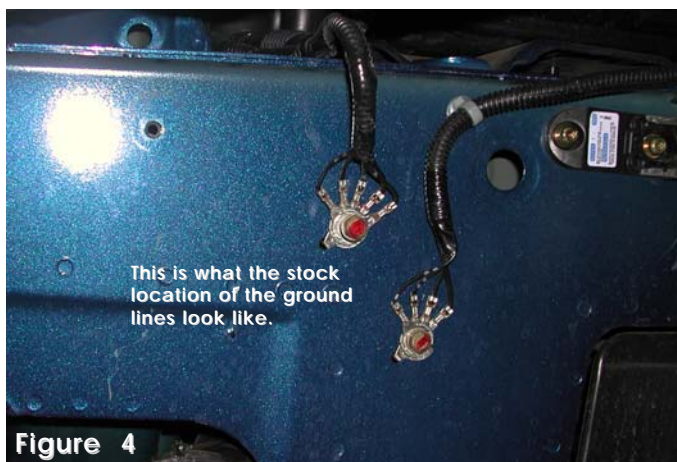
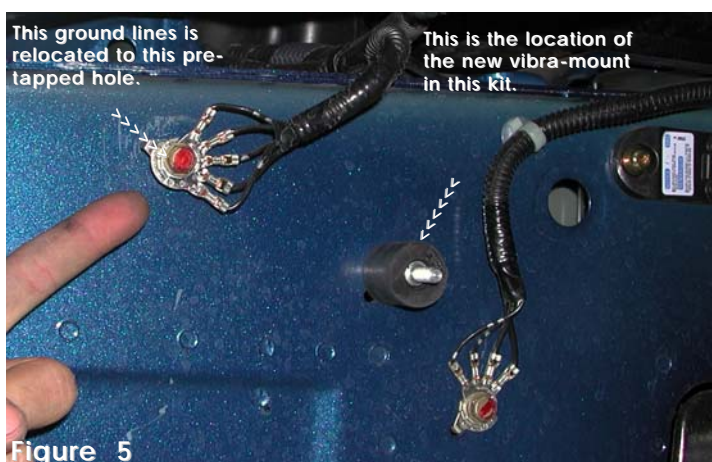

Figure 4
Figure 5
4. Once the bumper has been removed relocate one ground wire on the side of the main frame to the pre-taped hole to the left. (See figs. 4 and 5) Once the ground wire has been relocated screw the vibra-mount in the same place, use the m6 nut and fender washer. (See fig. 5)